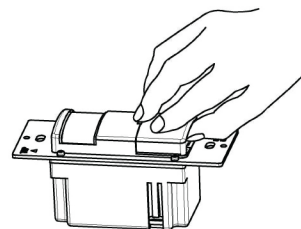

Figure 3
5. Remove the small cover plate (illustrated in Figure 3).
6. Locate the adjustment knobs on the control panel to perform test and adjustment (illustrated Figure 3).